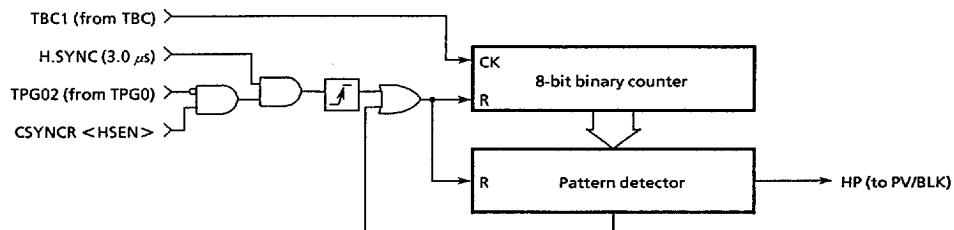

Figure 3.14.5 H.Pulse Generator
H.SYNC Generator generates serrated pulse in V.SYNC signal. This generated pulse (HP signal) is transferred to Pseudo-sync signal output circuit (PV/BLK), and it can be mixed to pseudo-V.SYNC signal. Configuration of the H.Pulse generator is shown in Figure 3.14.5.